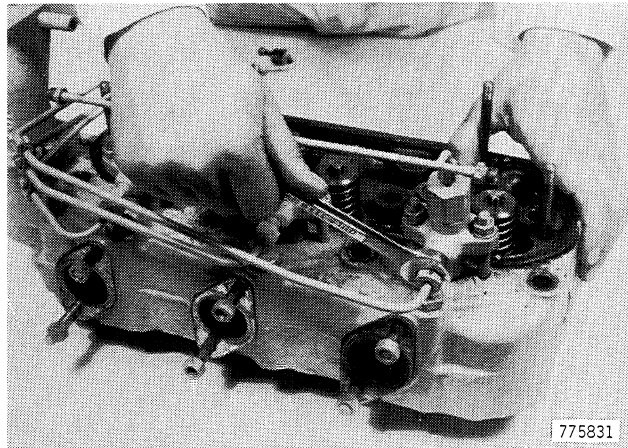

Figure 87
1. Place blocks of wood under head to prevent damage to the fuel injection nozzles. Disconnect tube at the fuel inlet of the injector, Figure 87.